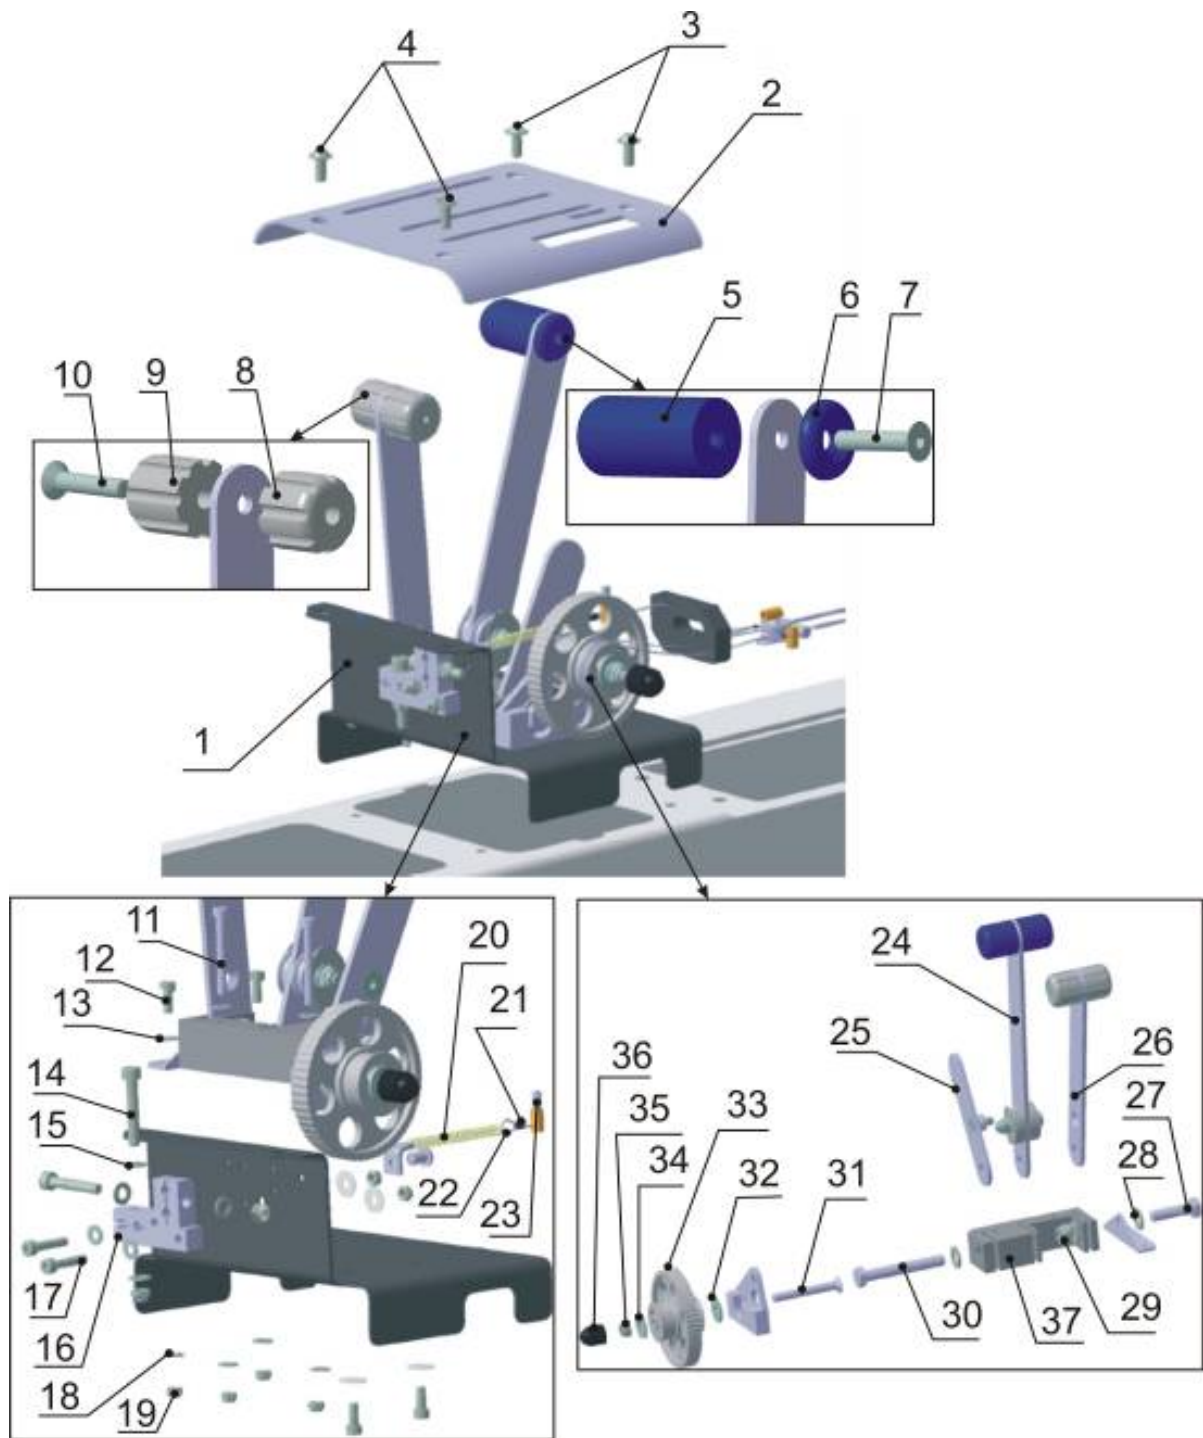

Fig. 76-00-2
Detailed view is given in Fig. 76-00-2.
B. Throttle Box Inspection (Fig. 76-00-2).